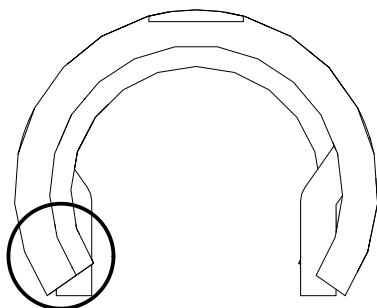
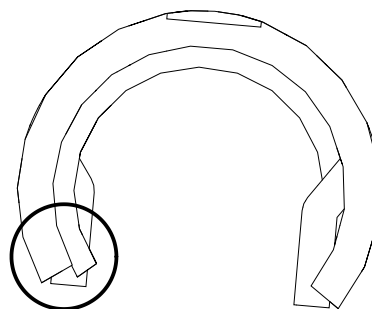

Fig. 3: Connector is mounted correctly
Fig. 4: Connector is mounted incorrectly
- When mounting the connector, make sure that it covers the conductor rail completely. The connector must have the same distance to the conductor rail on both sides (see Fig. 3 and Fig. 4).